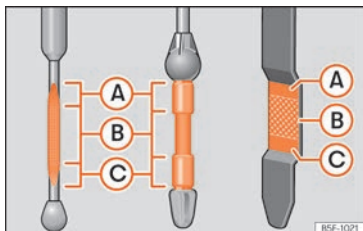

Fig. 270 Engine oil dipstick.
If the oil level is above area »» **Fig. 270 (A)**, do not start the engine. This could result in damage to the engine and catalytic converter. Contact a Technical Service.
If the oil level is above area »» **Fig. 270 (A)**, do not start the engine. This could result in damage to the engine and catalytic converter. Contact a specialised workshop.
The oil level must never be above zone »» **Fig. 270 (A)**. Otherwise oil can be drawn in through the crankcase breather and leak into the atmosphere via the exhaust system.